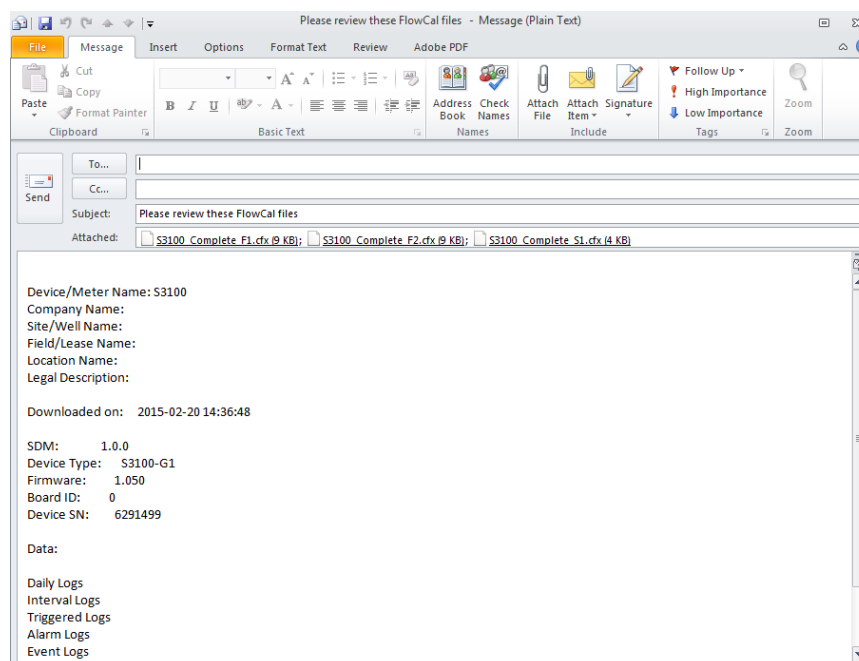

Figure 5.11—Automated email generated for converted files
4. Wait momentarily while Scanner Data Manager opens an email window on your computer, attaches the conversion file(s), and embeds a brief description of the file(s) in the body of the email (Figure 5.11, page 69).